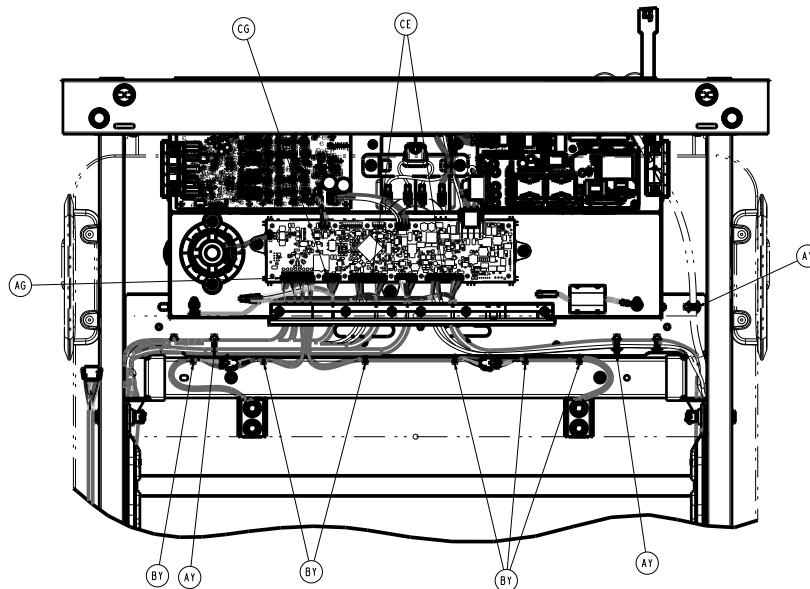

Figure 22 – Removing the cable
13. Using wire cutters, cut the cable tie (AY) that secures the siderail cable in the electrical box. Discard the cut cable ties (Figure 22).
13. Using wire cutters, cut the two cable ties (AY) that secure the siderail cable in the electrical box. Discard the cut cable ties (Figure 22).